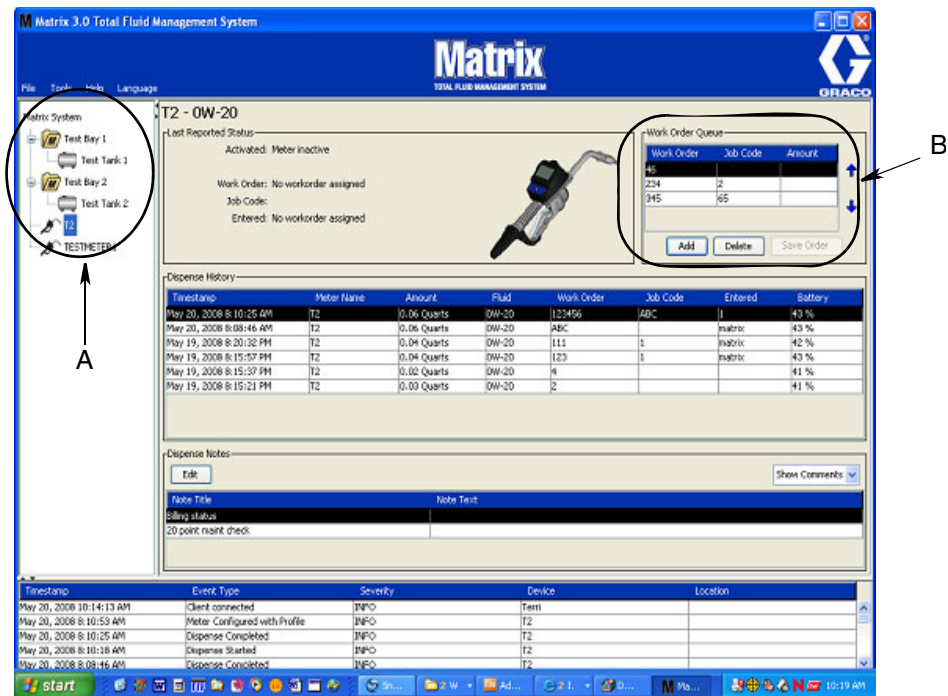

FIG. 211
1. In the System Administrator Defined Groups area of the Matrix Main Screen (A), select the meter you are sending the Work Order to (FIG. 211).